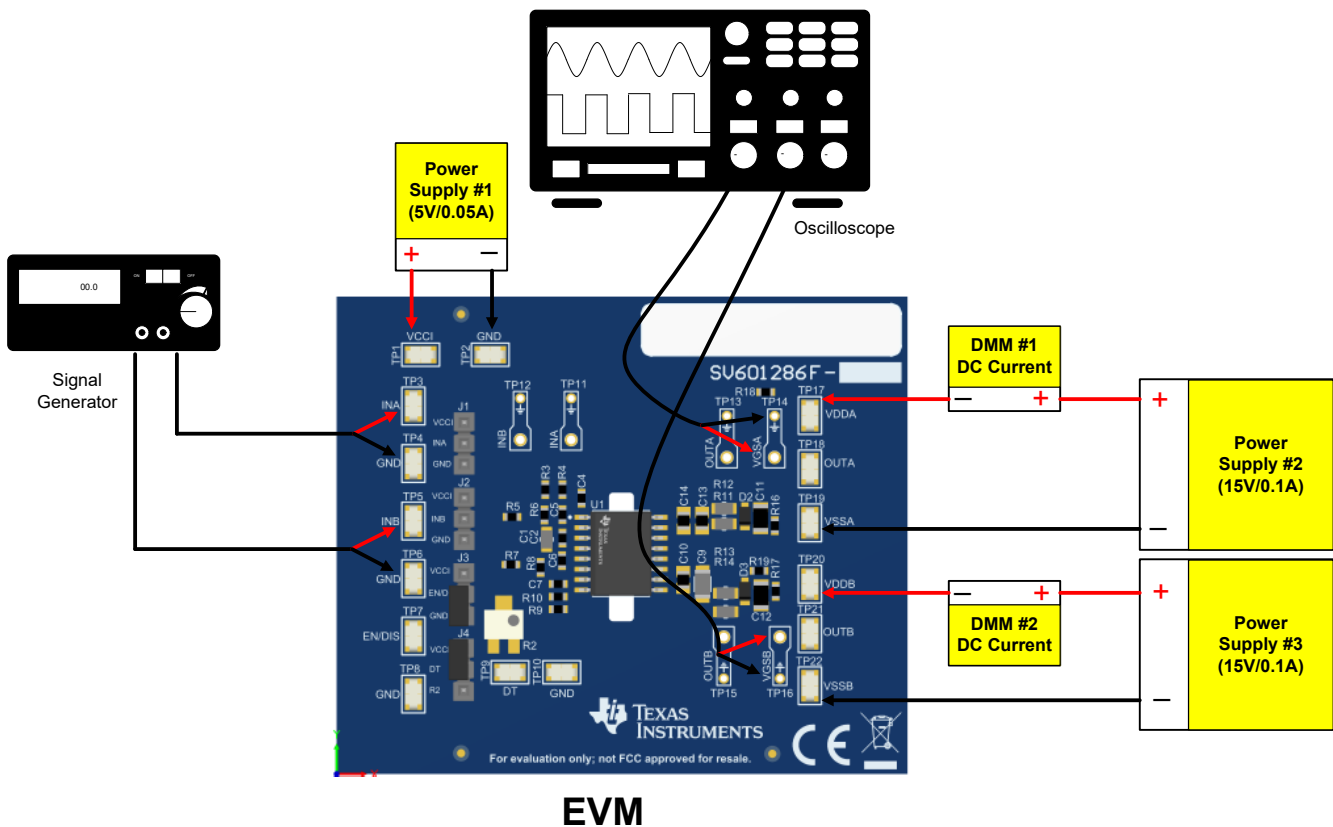

Figure 5-2. Bench Setup Diagram and Configuration
Use the following connection procedure and also use Figure 5-2 as a reference:
- Function generator channel-A channel applied on INA (TP3) ↔ GND (TP14) as seen in Figure 5-2;
- Function generator channel-B channel applied on INB (TP5) ↔ GND (TP6) as seen in Figure 5-2. For the UCC20520EVM, INB, J-INB and TP15 are not installed because the UCC20520 is a single PWM input, dual-channel output Iso-Driver;